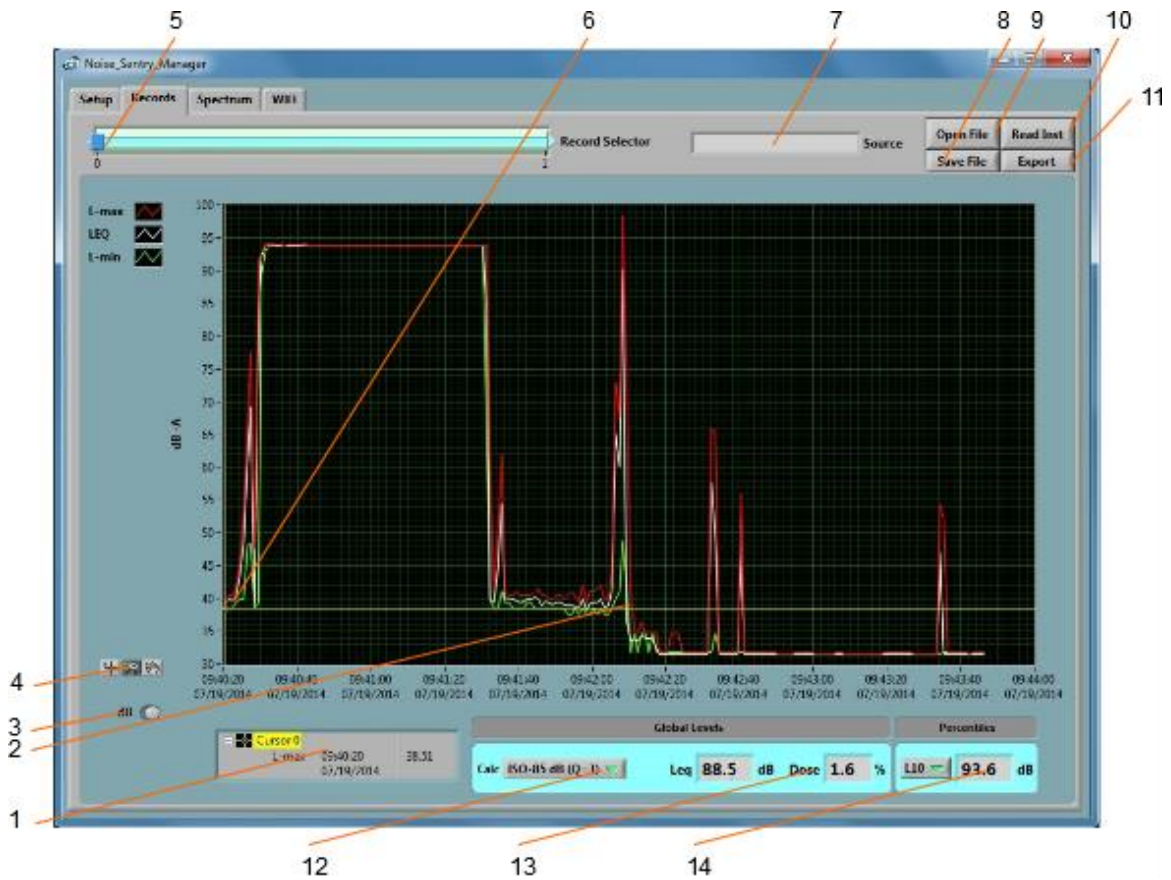

Figure 3 Record Tab
- **The Records Tab:** Is used to download, display and export the data from the `NSRTW_mk3` (see Figure 3).